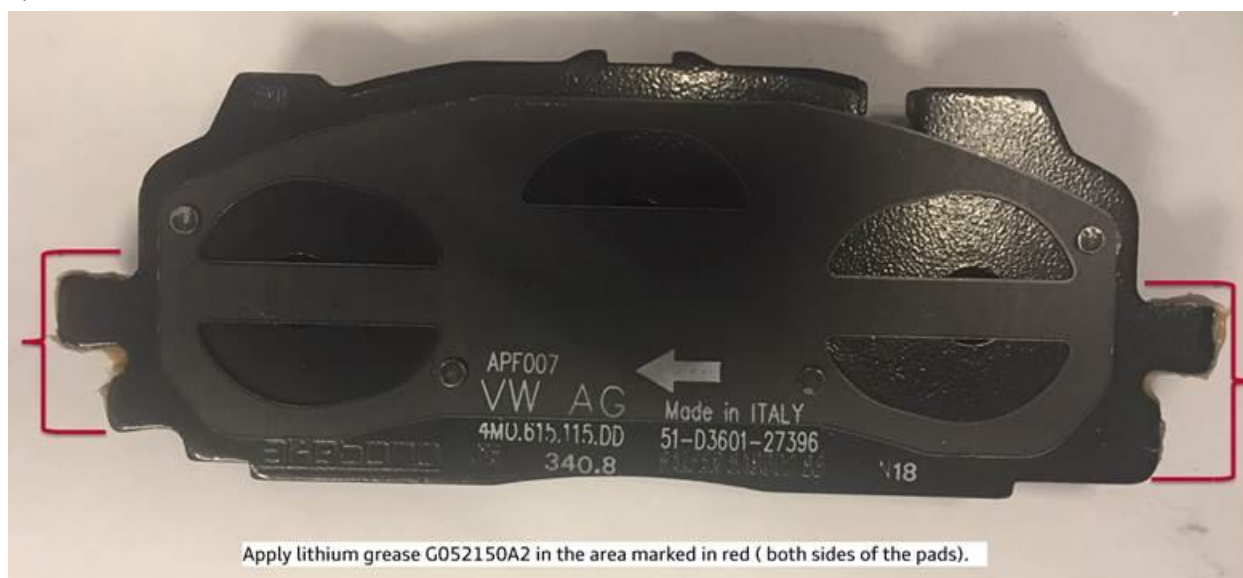

Figure 8. Apply a small amount of lithium grease in the area marked.
F. It is mandatory to clean and apply lithium grease in the area shown in the picture. Repeat it for all pads. (Figure 8).